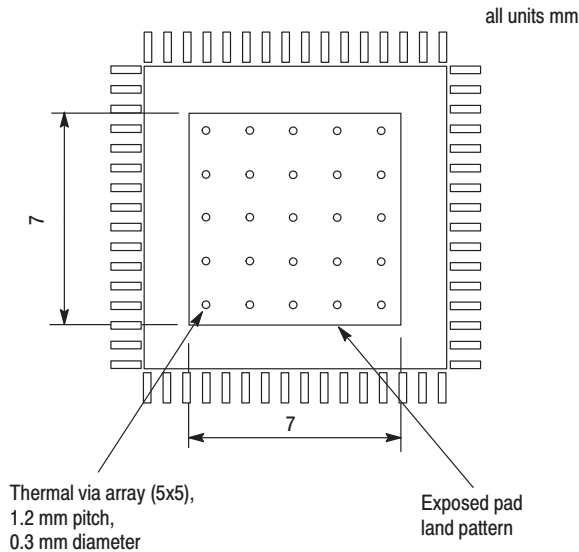

Figure 3. Recommended thermal land pattern
The MC100EP221 uses a thermally enhanced exposed pad (EP) 52 lead LQFP package. The package is molded so that the leadframe is exposed at the surface of the package bottom side. The exposed metal pad will provide the low thermal impedance that supports the power consumption of the MC100EP221 high-speed bipolar integrated circuit and eases the power management task for the system design. A thermal land pattern on the printed circuit board and thermal vias are recommended in order to take advantage of the enhanced thermal capabilities of the MC100EP221. Direct soldering of the exposed pad to the thermal land will provide an efficient thermal path. In multilayer board designs, thermal vias thermally connect the exposed pad to internal copper planes. Number of vias, spacing, via diameters and land pattern design depend on the application and the amount of heat to be removed from the package. A nine thermal via array, arranged in a 3 x 3 array and using a 1.2 mm pitch in the center of the thermal land is the absolute minimum requirement for MC100EP221 applications on multi-layer boards. The recommended thermal land design comprises a 5 x 5 thermal via array as shown in Figure 3 “Recommended thermal land pattern”, providing an efficient heat removal path.